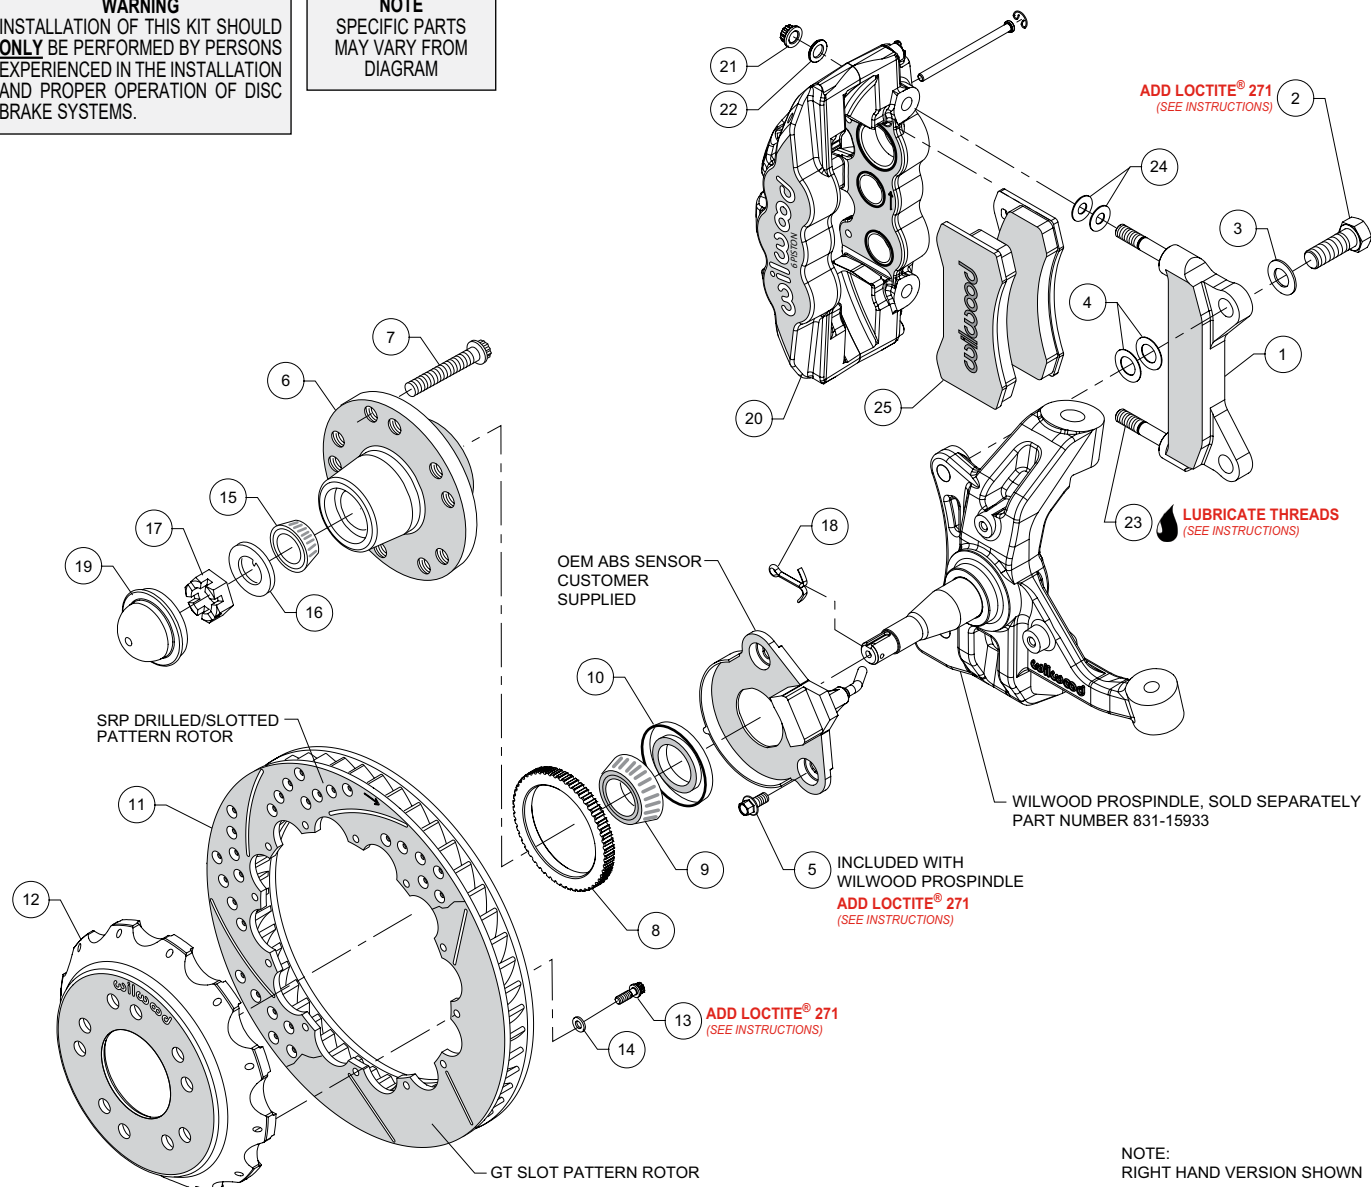
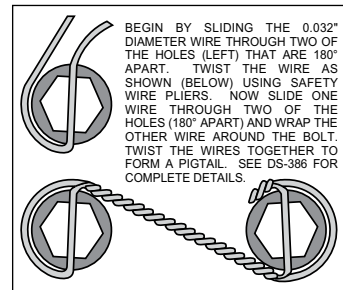

Figure 1. Typical Installation Configuration
Figure 3. Safety Wire Diagram
NOTE: Numbers in parenthesis refer to the parts list and Figure 1 on the preceding pages.
- For vehicles equipped with ABS, install the OEM ABS sensor (customer supplied) to the spindle using bolts (5) as shown in Figure 1 and Photo 3. Temporarily tighten the mounting bolts.
- The caliper mount bracket (1) should initially be installed with clean, dry threads on the mounting bolts. Orient the bracket, as shown in Figure 1 and Photo 4, and install using bolts (2) and washers (3). Initially place two .024" thick shims (4) on each bolt between the bracket and spindle, Figure 1. Temporarily tighten the mounting bolts. **NOTE: The bracket must fit squarely against the mount bosses on the spindle.** Inspect for interference from casting irregularities, machining ridges, burrs, etc. Later, after the caliper alignment has been checked, the mount bolts will be secured using red *Loctite*® 271.
- For vehicles equipped with ABS, carefully press the ABS ring (8) onto the backside of the hub (6) as shown in Figure 1 and Photo 6.
- Pack the large inner bearing cone (9) with high temperature disc brake bearing grease (available from your local auto parts store) and install into the backside of the hub (6), Photo 7.
- Install the grease seal (10) by pressing into the backside of the hub (6), flush with the end of the hub, Photo 7.
- Press the dust cap (19) into the hub (6). **NOTE:** Do not hammer center of cap. Install using outer flange only.
- Orient the rotor (11) and the hat (12) as shown in Figure 1 and Photo 9. Attach rotor to hat using bolts (13) and washers (14). Using an alternating sequence, apply red *Loctite*® 271 to the threads, and torque to 155 **in-lbs**. For an added measure of security, the bolts may be safety wired using standard 0.032 inch diameter stainless steel safety wire as shown in Figure 3. Refer to Wilwood's data sheet DS-386 (available at www.wilwood.com/Pdf/DataSheets/ds386.pdf) for complete safety wire installation instructions.
- Slide the hat/rotor (12 and 11) onto the hub (6), Photo 10. **NOTE:** *The hat must fit flush against the hub face or excessive rotor run out may result.* Install three lug nuts (finger tight) to keep the hat/rotor in place while continuing with the installation.
- Lubricate the caliper mounting studs (23) with lightweight oil. Initially place two .030" thick shims (24) on each stud between the caliper and the bracket, as shown in Figure 1 and Photo 11. Mount the caliper (20) onto the bracket (1) using lock nuts (21) and washers (22), Figure 1. Temporarily tighten the lock nuts. Ensure that the caliper is mounted so that the largest pistons are at the rotor exit end of the caliper, in relation to the direction of rotor rotation. View the rotor through the top opening of the caliper. The rotor should be centered in the caliper, Photo 12. If not, adjust by adding or subtracting shims (4) between the bracket and the spindle. Always use the same amount of shims on each of the two mounting bolts. Once the caliper alignment is correct, remove the bracket mounting bolts one at a time, apply red **Loctite® 271** to the threads, and torque to 140 ft-lb.
- Remove the caliper (20), then remove the two pad retaining pins from the caliper by carefully popping out the pin retaining clips and sliding out the pins. Insert the brake pads (25) into the caliper from the bottom, Figure 1 and Photo 13. With the friction material facing the rotor, secure the brake pads in place with the pad retaining pins and clips, Photo 14. Reinstall the caliper onto the caliper mounting bracket and temporarily tighten the lock nuts. Check that the top of the brake pad is flush with the outside diameter of the rotor, Photo 15. If not, adjust by adding or subtracting shims (24) between the caliper (20) and the bracket (1). After the caliper pad height is set, torque the caliper lock nuts (21) to 47 ft-lb.